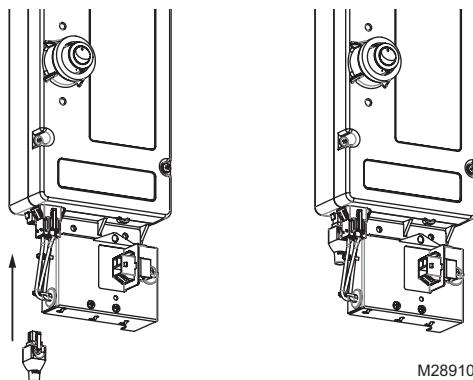
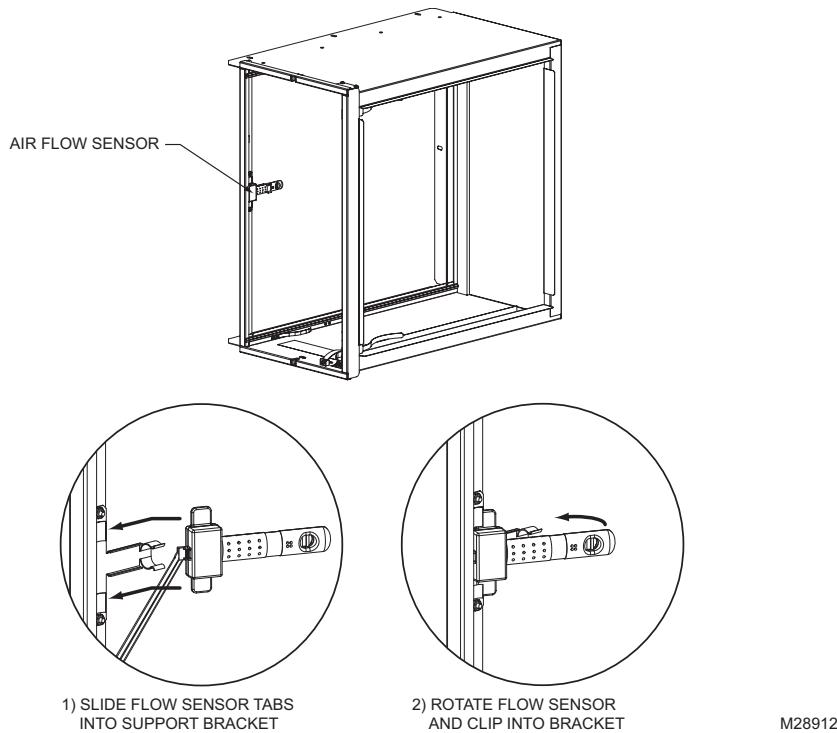

Fig. 12. Airflow sensor Bypass Jumper Plug installed.
Fig. 14. Airflow Switch installation.
**NOTE:** The Honeywell Enhanced Air Cleaner should only be powered when airflow is present. An airflow switch is factory-installed. See Fig. 1 on page 4 and Fig. 14 on page 16. In order to bypass the airflow sensor for troubleshooting, use the special bypass jumper plug (see Fig. 12) included in the parts bag. With the bypass jumper in place, the air cleaner will be on at all times when connected to electrical line power. The bypass jumper is not to be used for normal operation.
- b. Remove the enhancement module from the Honeywell Enhanced Air Cleaner cabinet and inspect the airflow switch (see Fig. 14 on page 16).